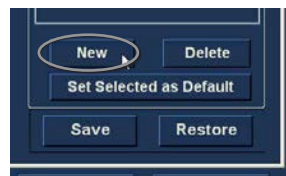

Figure 4.9 - Users Screen, New User
1. In the Users screen select “New” as shown in Figure 4.9.